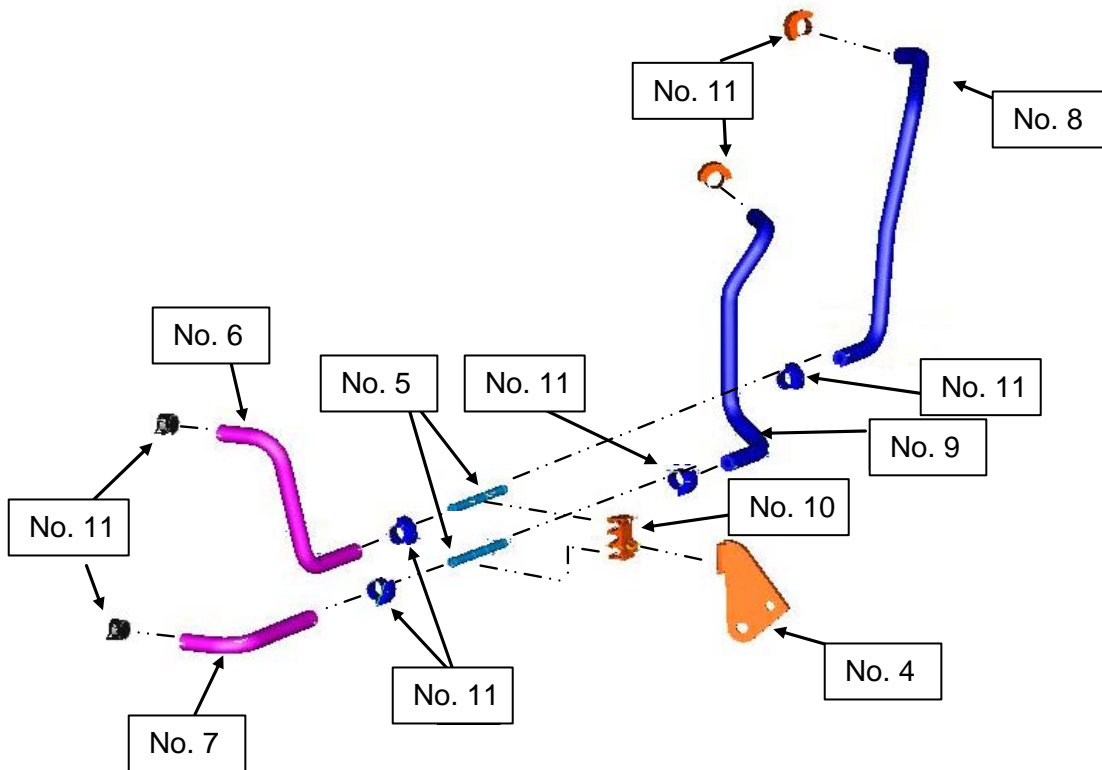
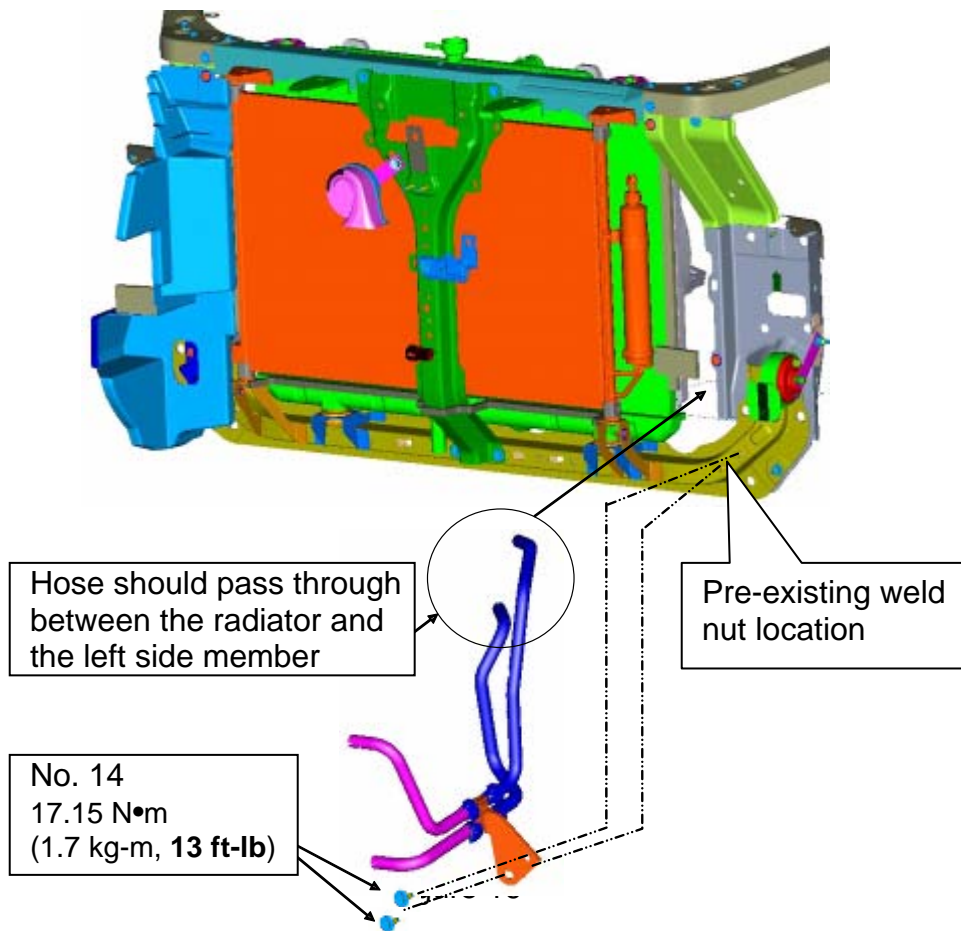
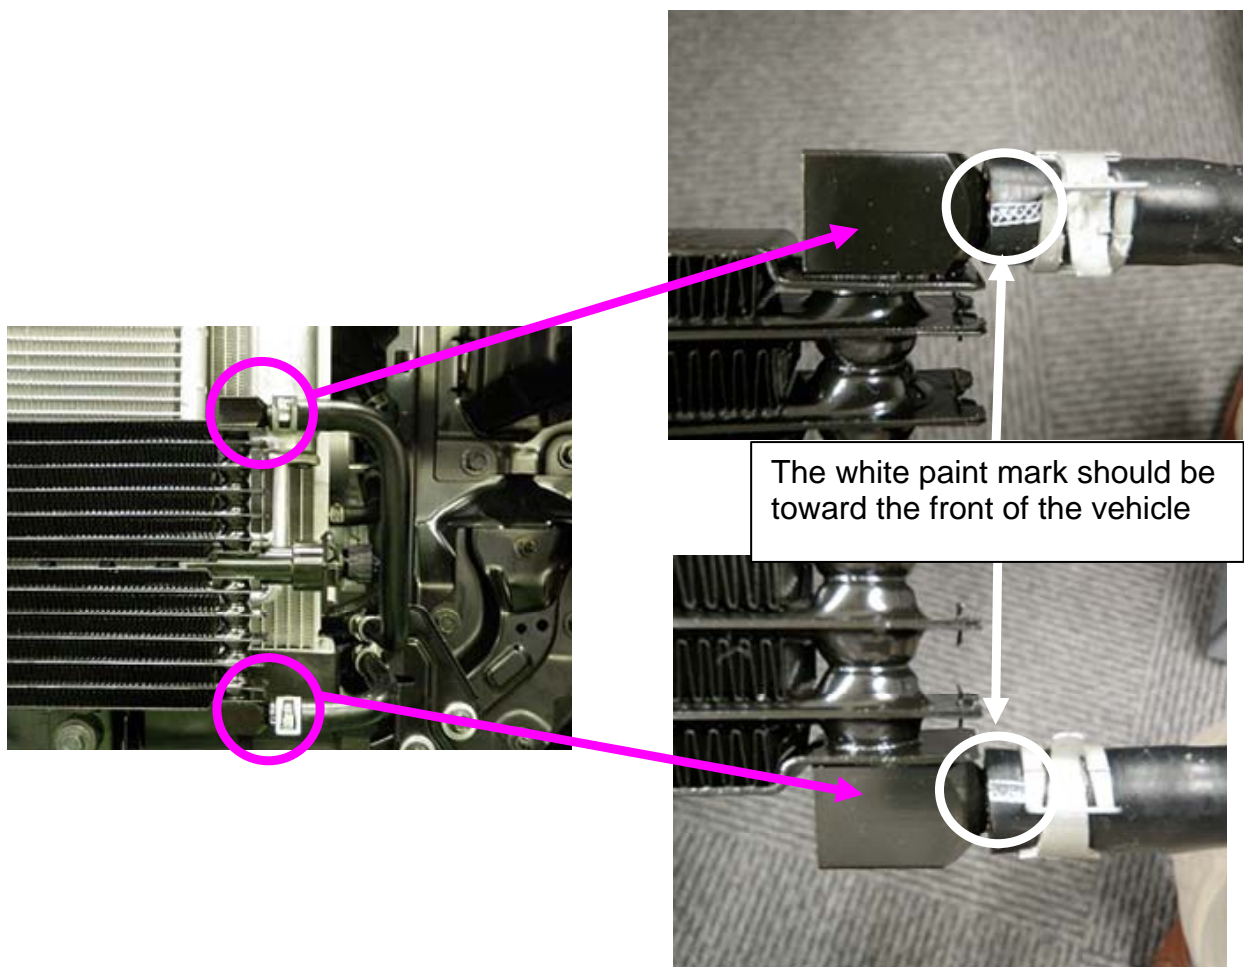

Figure 15
Figure 19
Figure 20
Figure 15 illustrates the COOLER ASSY-AUTO TRANS Hose Assembly referenced in steps 1-3 on page 9.
**NOTE:** Refer to Figure 15 on page 8 for steps 1-3 below.
**NOTE:** Refer to Figure 15 on page 8 and Figure 19 below for steps 1-3 below.
- a. Pass the hoses shown in blue (Figure 19) between the radiator and the bulkhead.
- b. Install BRKT ASSY-O/COOLER, SIDE (No. 4) with two bolts (No. 14) to the pre-existing weld nuts and torque with the specification provided in Figure 19.
2. Place 2 new CLAMP-HOSE (spring clamp, No. 11) onto the hoses and install the HOSE (No. 6/7, Figure 15) onto COOLER ASSY-AUTO TRANS, OIL (No. 1) with the white paint marks facing toward front of the vehicle (Figure 20).